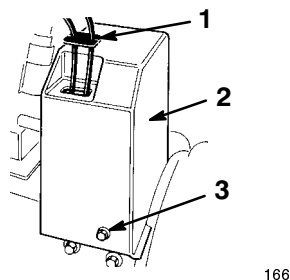

Figure 5
14. Mount the upper belt cover to the engine frame with three 1/2-inch (1.3 cm) flange head cap screws (Fig. 5).
15. Slide the cable cover onto the cables and into the hole in the belt cover (Fig. 5).